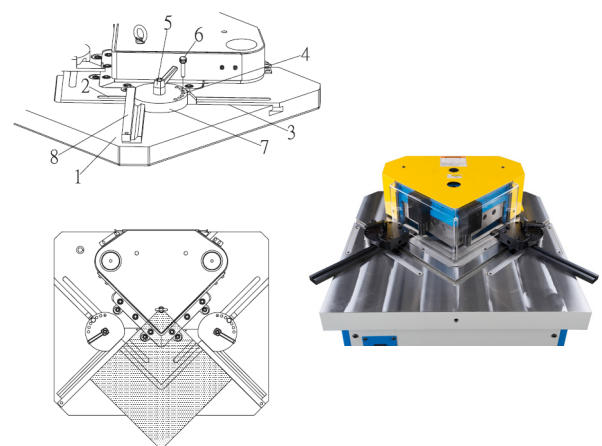
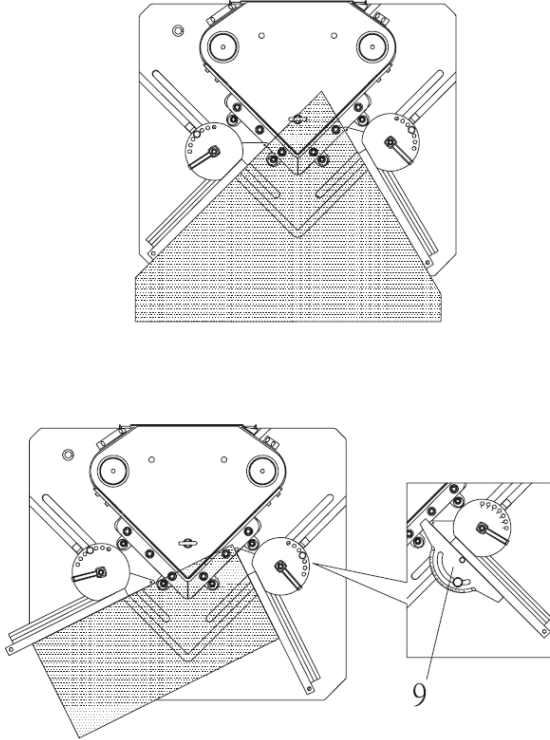

Fig. 23: Limit stops
Fig. 24: Setting the limit stops
- Step 3: Loosen the clamping handle (Pos. 5, Fig. 23) and push the stop out to the required workpiece length.
- Step 4: Remove pin (Pos. 6, Fig. 23) and set the required number of degrees.
Step 5: Adjust the left and right stops (Pos. 8, Fig.23) to fit the workpiece to the working reference (Fig.24 and 25).